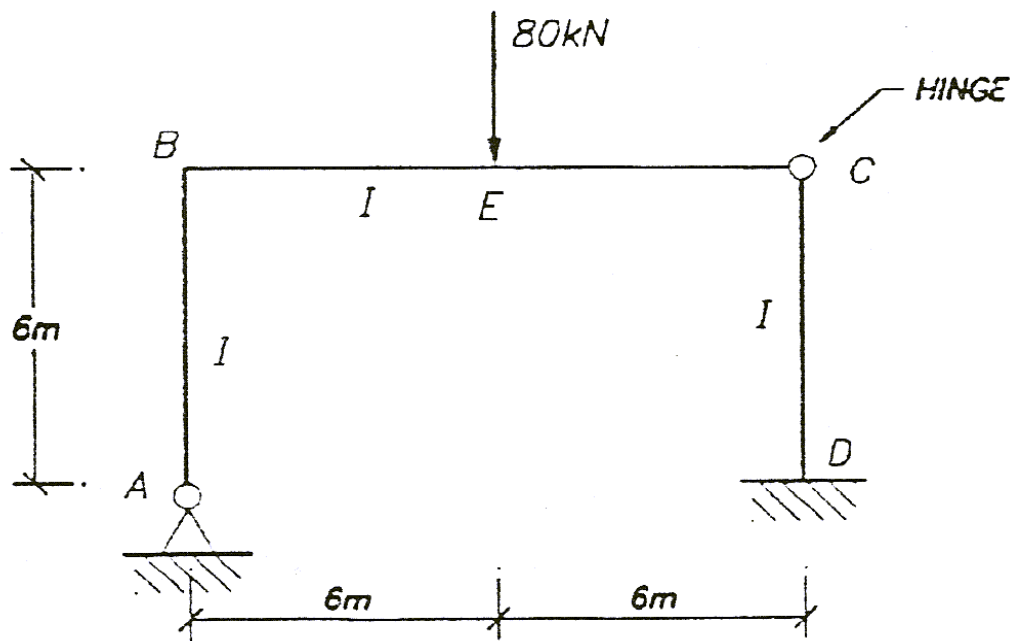

FIG Q2
- (i) Determine the bending moment moments for the frame in Fig. Q2;